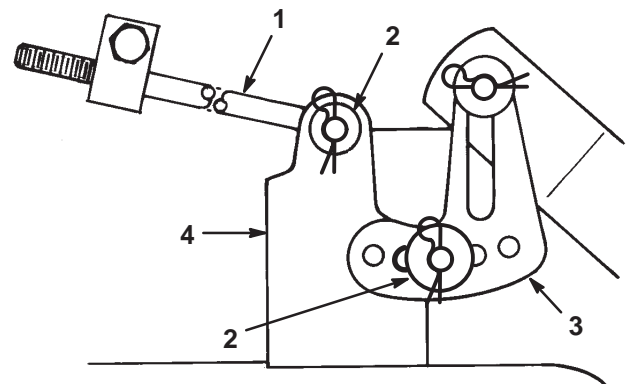

Figure 41
12. Slide the end of the long rod through the hole in the mower mount (Fig. 41). Install the washer and hairpin cotter to secure the rod in place. Repeat this step on the opposite side of the mower.
13. Mount the slotted mower leveling bracket onto the pin on the height-of-cut arm (Fig. 41). Install the washer and hairpin cotter to secure the mower. Repeat this step on the opposite side of the mower.